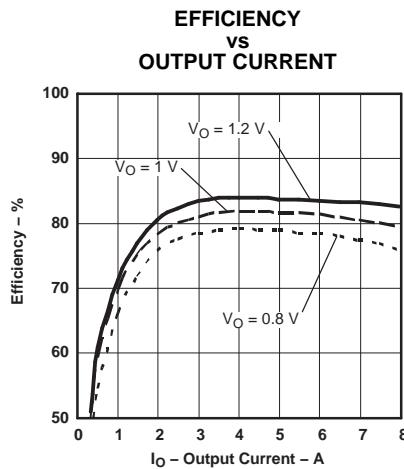
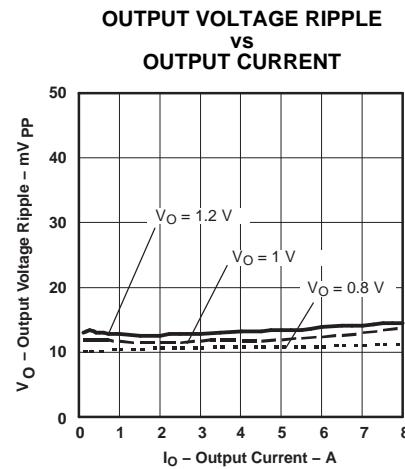
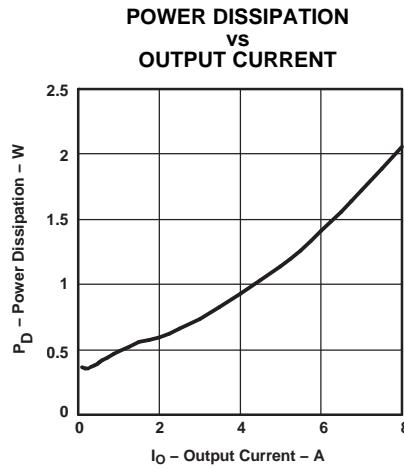

Figure 7.
Figure 8.
Figure 9.
(10) The electrical characteristic data has been developed from actual products tested at 25°C. This data is considered typical for the converter. Applies to Figure 7, Figure 8, and Figure 9.